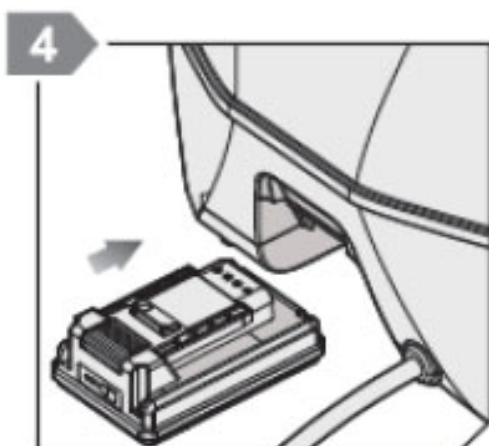

Fig. 19: Insert the battery
Step 5: Insert the full charged battery into the battery socket on the device (Fig.19).